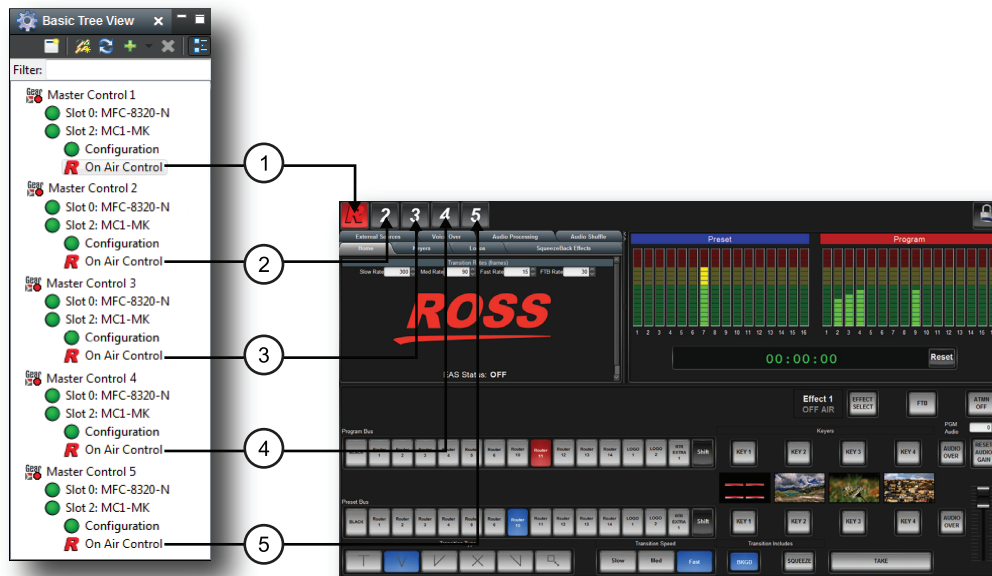

Figure 9.4 Example of Assigning Multiple MC1-MK to Channel Select Buttons
5. Assign each additional MC1-MK to a button in **On Air Control** node of the first MC1-MK. Refer to **Figure 9.4** for an example of a possible button mapping.
5. Repeat for each additional MC1-MK to add the buttons to the On Air Control interface for each MC1-MK. Refer to **Figure 9.4** for an example of a possible button mapping.